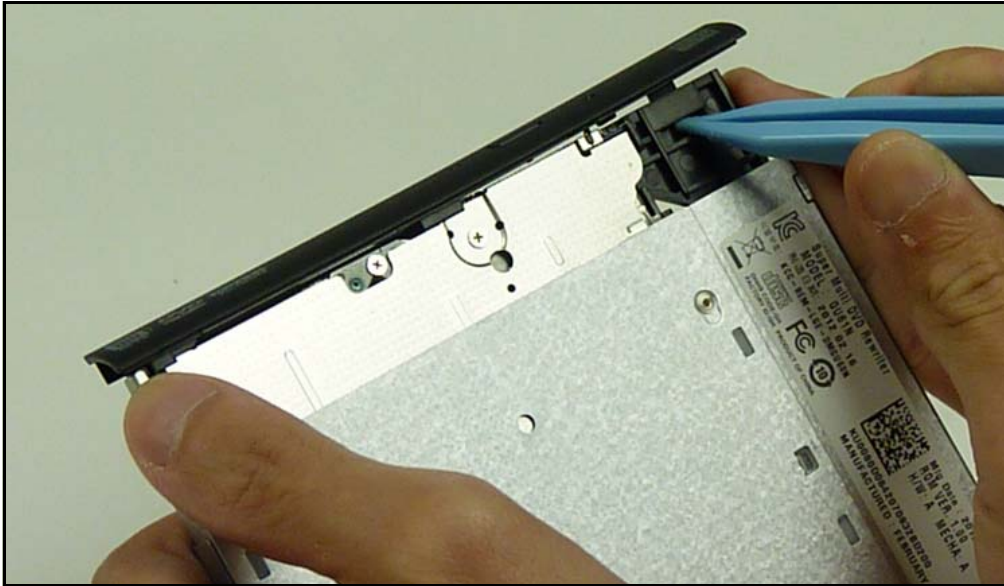

Figure 3-2. ODD Bezel Removal
5. Remove the ODD bezel (Figure 3-2).